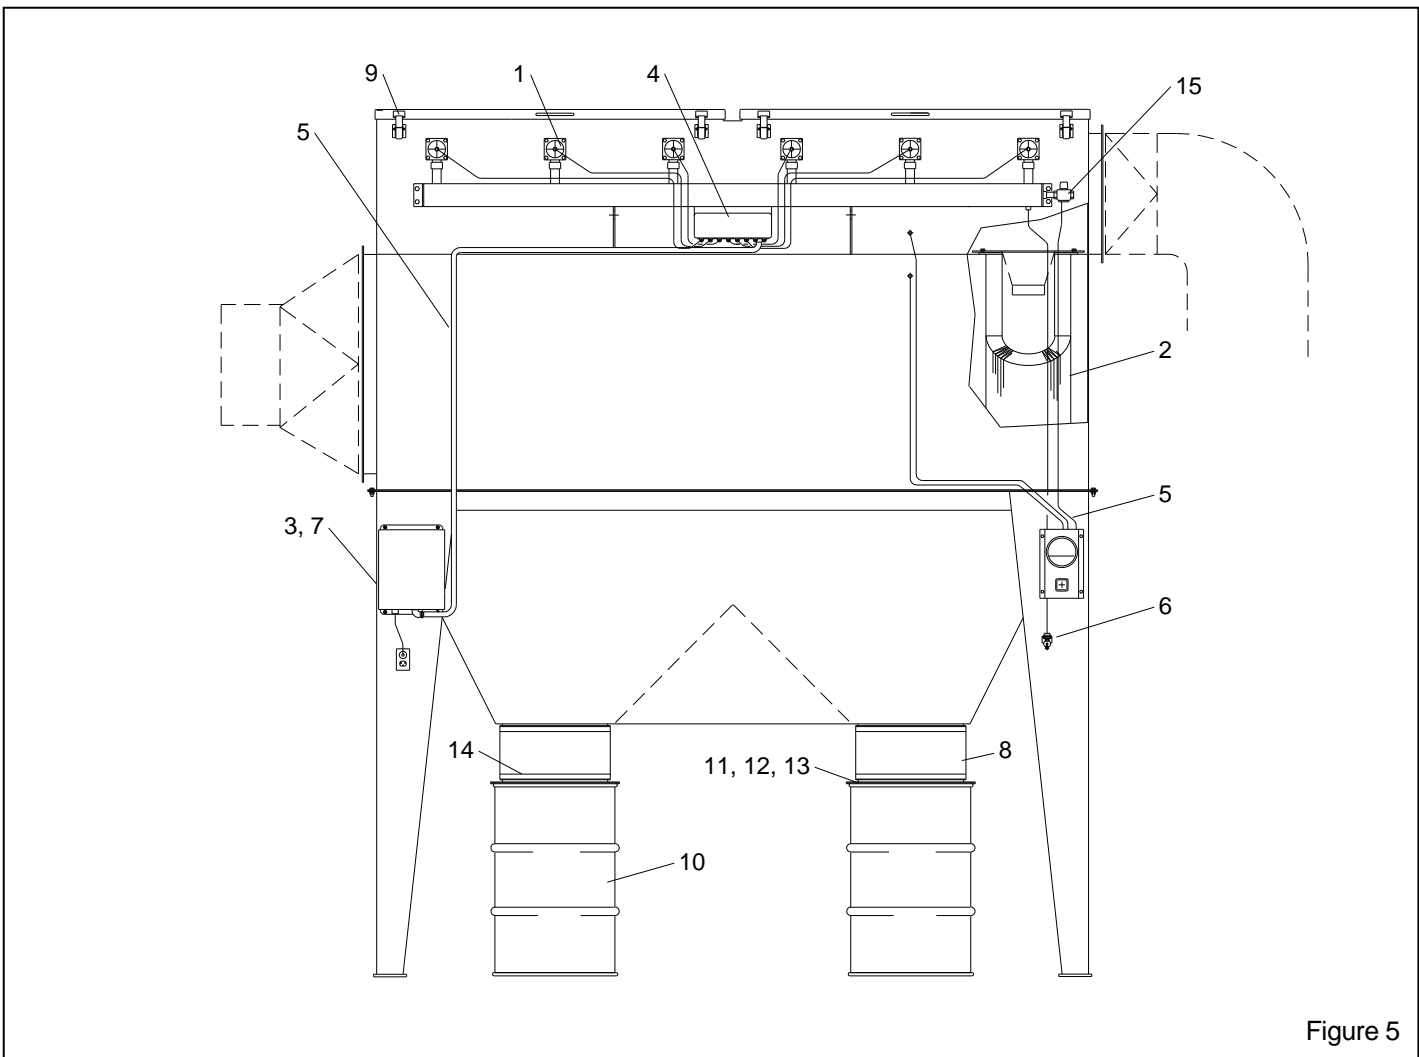

Figure 5
8.2 Common Replacement Parts, Figure 5